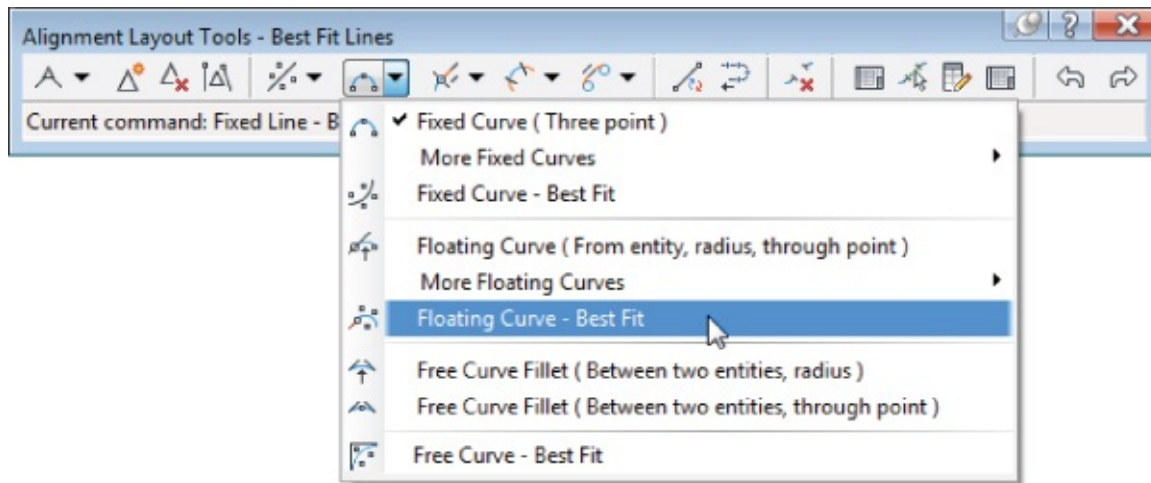

Figure 6.17 The Floating Curve - Best Fit option
- Without exiting the Alignment Layout Tools toolbar, you will build a best fit floating curve using the remainder of COGO points. Expand the curve creation tools and select the Floating Curve - Best Fit option, as shown in Figure 6.17.